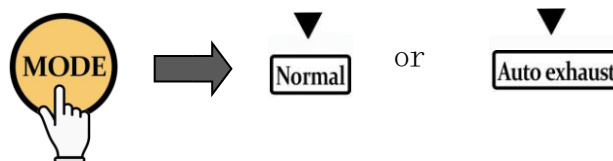

Fig. 17
⑦ Mode selection: You can switch between conventional or automatic exhaust mode (see Fig.17).